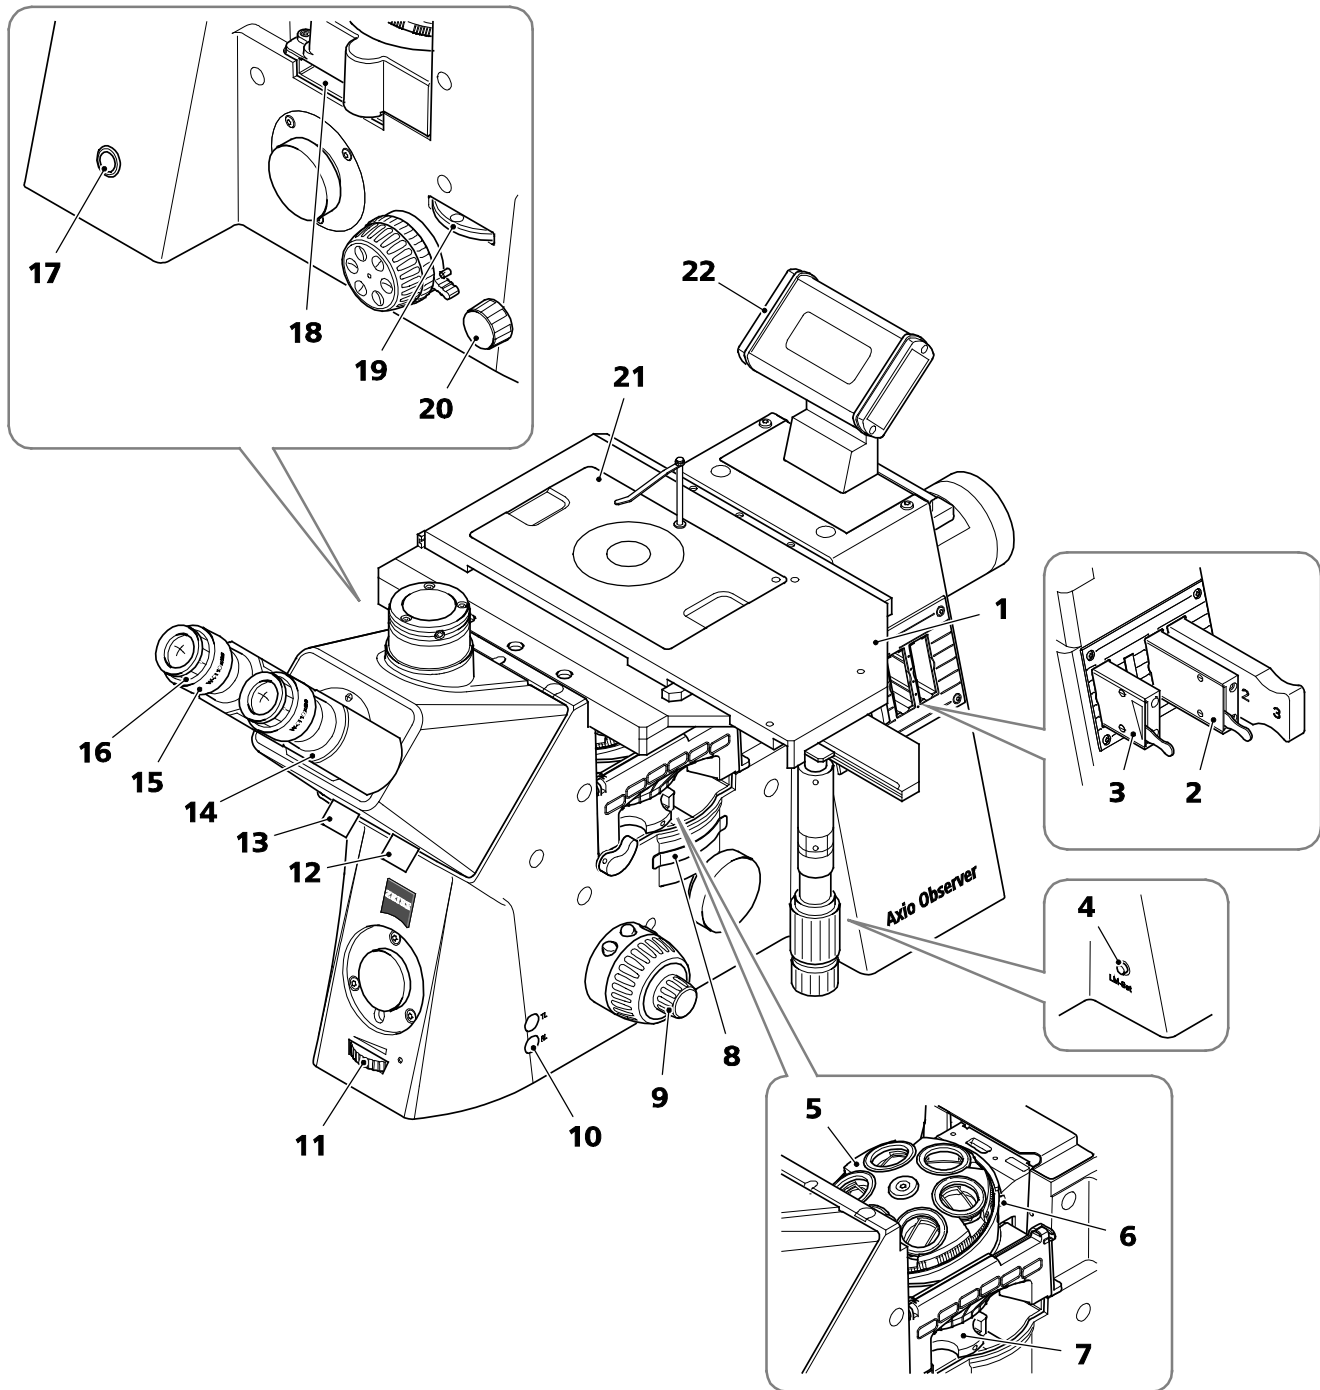
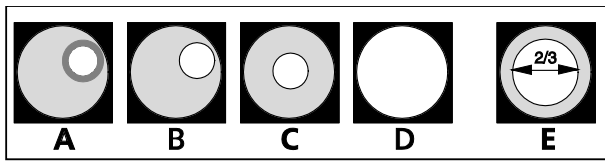
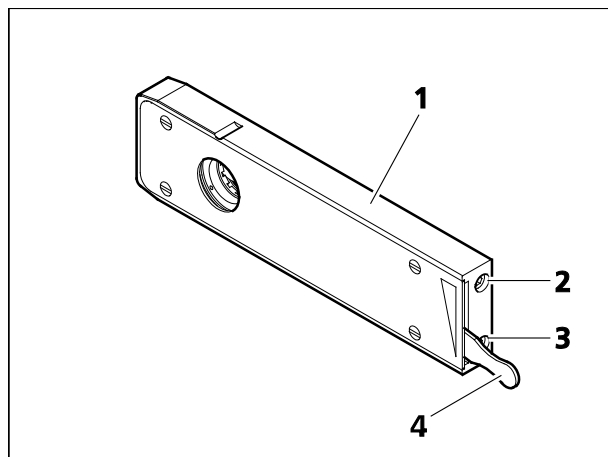

Fig. 154 Setting reflected light brightfield (Axio Observer 5 materials)
Fig. 155 Diaphragm settings in reflected light brightfield acc. to KÖHLER
Fig. 156 Iris diaphragm slider for reflected light
Key to Fig. 154:
(2) Instrument equipment
(3) Setting reflected light brightfield according to KÖHLER
- Switch on the HAL 100 or microLED illuminator for reflected light using the RL button (Fig. 154/10) on the microscope stand.
- Adjust the light intensity by turning the control wheel (Fig. 154/11) on the microscope stand.
- Turn the nosepiece (Fig. 154/5) to swivel in the 10x objective (yellow ring, see also section 5.3).
- Use focus drive (Fig. 154/9) to focus on the specimen. In doing so, always focus away from the specimen, if possible, to avoid any collision between objective and specimen.
- Move the aperture diaphragm slide MAT setting lever (Fig. 154/2 or Fig. 156/4) into the central position (roughly half opened or closed).
- Use the control lever (Fig. 156/4) of luminous-field diaphragm slider (Fig. 154/3) to narrow the luminous-field diaphragm until it becomes visible in the field of view (Fig. 155/A).
- Turn the focus drive (Fig. 154/9) to refocus on the edge of the luminous-field diaphragm (Fig. 155/B) and use the centering screws (Fig. 156/2, 3) to center the luminous-field diaphragm with the edge of the field of view (Fig. 155/C).
- Then, open the luminous-field diaphragm (Fig. 154/3) so that it just disappears from the field of view (Fig. 155/D).
- To set the aperture diaphragm (image contrast), remove one eyepiece (Fig. 154/15) from the binocular tube and look into the tube with your naked eye or insert the auxiliary microscope in place of the eyepiece.
- Center the aperture diaphragm with the centering screws on the aperture diaphragm slider MAT (Fig. 154/2); for specimens with medium contrast, set the control lever to about 2/3 to 4/5 of the exit pupil diameter of the objective (Fig. 155/E).
- Finally, reinsert the eyepiece, refocus with the focus drive (Fig. 154/9) and adapt the image brightness with control wheel (Fig. 154/11) to the reflected light specimen.
Never use the aperture diaphragm to adjust image brightness. Use the illumination intensity control wheel (Fig. 154/11) for this purpose!
- First use the internal fluorescence shutter to keep the light path in the reflected light section closed by pressing the RL button (Fig. 154/10).
- On the reflector turret (Fig. 154/7) or the virtual reflector turret (if dual filter wheel mot. is available), select the desired fluorescence filter combination (depending on the desired kind of excitation) and switch on.
- Insert an iris diaphragm slider into the luminous-field diaphragm F slot (Fig. 154/3) until it clicks into place.
- Using the lever (Fig. 156/4), close the diaphragm until it becomes visible in the field of view.
- Center the diaphragm using the two adjusting screws (Fig. 156/2, 3) on the slider (using a 3 mm ball-headed screwdriver). Finally, open the diaphragm until the entire field is clear.
- Insert the centered slider into the slot A (Fig. 154/2) for the aperture diaphragm until it clicks into place.
(3) Setting reflected light polarization
- Swivel reflector module DIC/Pol P&C on reflector turret (Fig. 154/7) into the beam path or insert Pol P&C reflector module and analyzer slider.